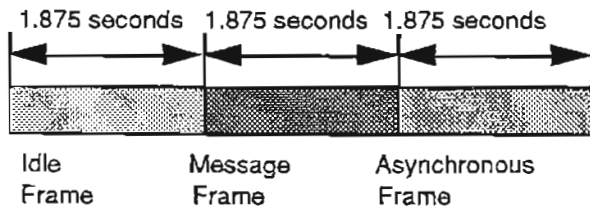

Figure 5.1-1
The R1151 has two modes for sending FLEX™ pages, single page mode and repeat page mode. When a single FLEX™ page is sent, the R1151 sends three (3) frames of information to the pager. Each frame is approximately 1.875 seconds in length; therefore, a single page will take 5.625 seconds. The first frame is an idle codeword frame; this allows the pager to synchronize to the R1151 time base. The second frame is the message frame. The third frame is a command for the pager to enter asynchronous mode. Figure 5.1-1 illustrates a single page.